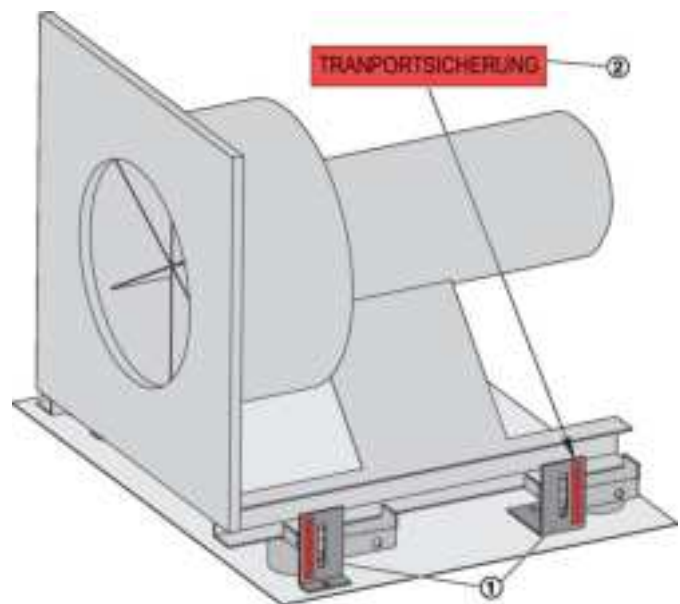

Fig. 9: Transport protection brackets
1. ▶ Remove the brackets (Fig. 9 /1) that are marked with a red sticker (Fig. 9 /2).